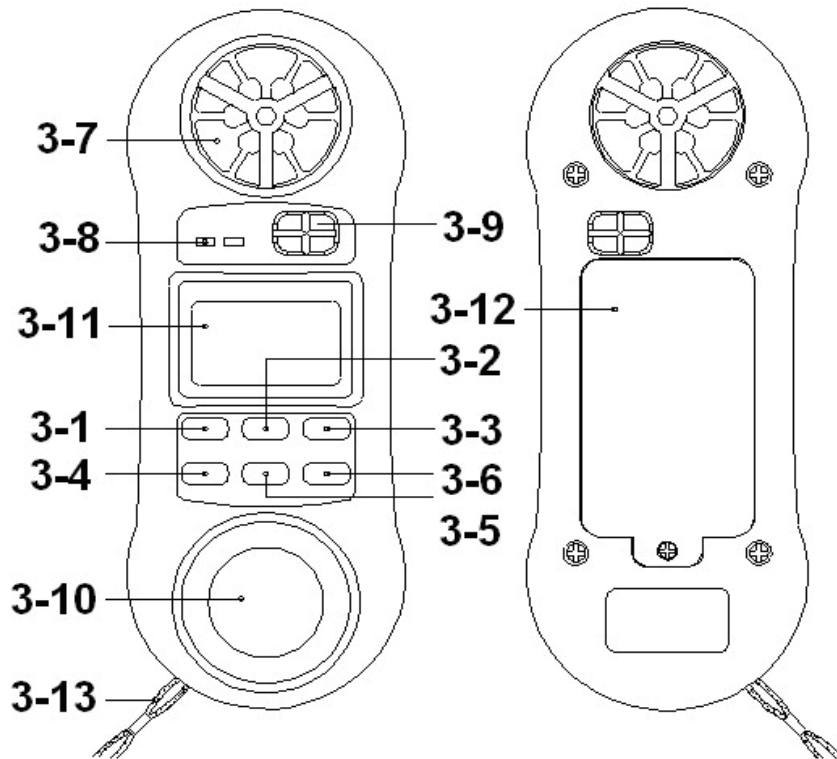

Fig. 1
- 1) Power on the instrument by pressing the " Power Button " (3-1, Fig. 1).
- 2) Select the Anemometer function by pressing " Function Button " (3-6, Fig. 1).
- 3) Press the " Unit/Zero Button " (3-4, Fig. 1) to select unit that you want and then face the " Air Flow Sensor " (3-7, Fig. 1) to the source of wind.
- 1) Power on the instrument by pressing the " Power Button " (3-1, Fig. 1)..
- 2) Plug a type K thermocouple probe in the " Thermocouple Input Socket " (3-8, Fig. 1).
- 3) Select the Temperature function by pressing " Function Button " (3-6, Fig. 1)
- 2) Select the Relative Humidity function by pressing "Function Button " (3-6, Fig. 1).
- 2) Select the Light Measurement function by pressing the " Function Button " (3-6, Fig. 1) until the light value is displayed. The light display digits are oriented 180° from the other function displays for easy exposure and output reading of the light sensor.
- 3) Press the " Lux/Ft-cd Button " (3-5, Fig. 1) to select measuring unit " Lux " or " Ft-cd ".
- * For best results zero the light sensor prior to use in a dark environment. Placing the light sensor end of the meter under a desktop or flat surface so as to block any light can accomplish this. Then press the "Unit/Zero Button" (3-4, fig. 1) to set the meter indication to zero.
Whenever press the "Hold Button (3-2, Fig. 1)" will freeze the current reading value with a "HOLD" symbol on the display.
- 1) The Data Record function records & displays the maximum and minimum reading values. Start the Data Record function by pressing the " Max./Min. Button " (3-3, Fig. 1) once. There will be a " REC " symbol on the display.
(a) Press the " Max./Min. Button " (3-3, Fig. 1) once and the " Max " symbol along with the maximum value will appear on the display.
(d) Clear the Max./Min. value recorded by pressing the " Hold Button " (3-2, Fig. 1) once. Previous recorded Max./Min. value will be given up and then revert to the REC. function keep on recording.
- 2) Open the " Battery Compartment / Cover " (3-12, Fig. 1) and remove the battery.